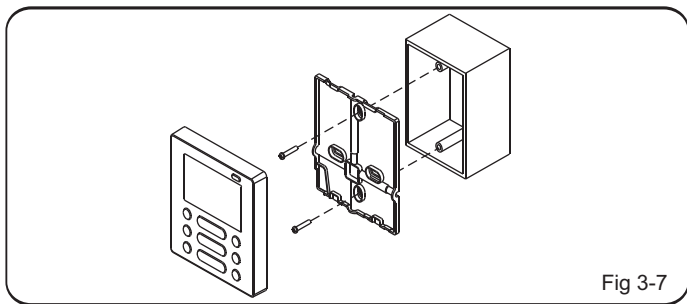

Fig 3-7
- Fix the bottom cover to the electric cabinet by the accessory slotted head screws. Confirm the bottom cover is parallel to wall surface.And then reinstall the bottom cover to centralized controller. (See fig 3-7)